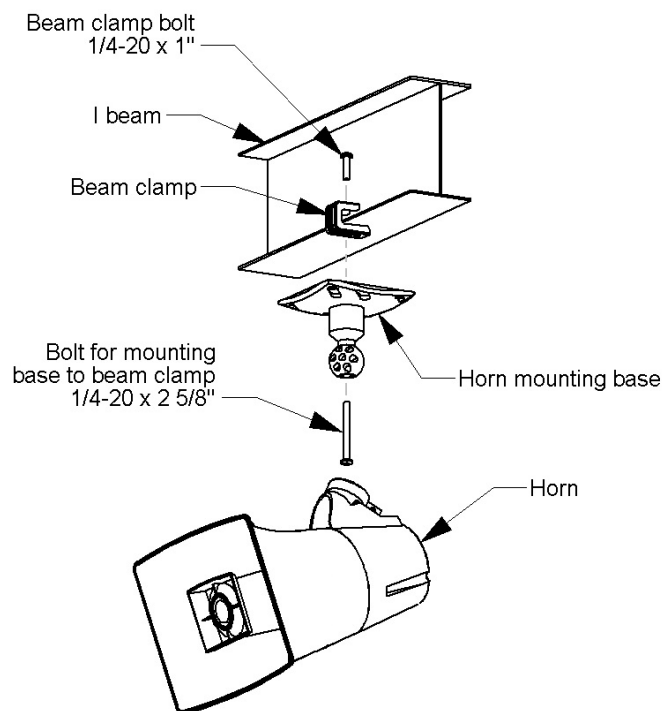

Figure 1. Mounting to a Beam with a “C” Clamp
- A “C” clamp is provided with the horns to allow mounting to a beam. When using the “C” clamp for mounting, remove the signal cable from the ball mount. Reinstall an RJ45 connector on the signal cable after mounting, using the T568B pinout scheme. See Figure 1.